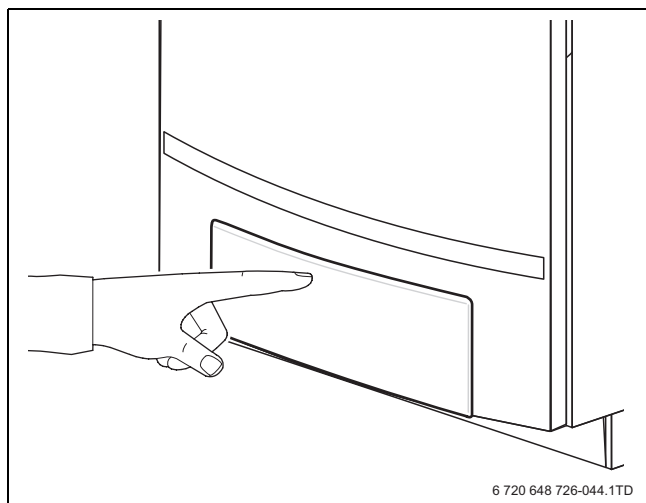

Fig. 96 Closing the control panel
- ▶ Press on the control panel to close it (→ fig. 96, page 58).